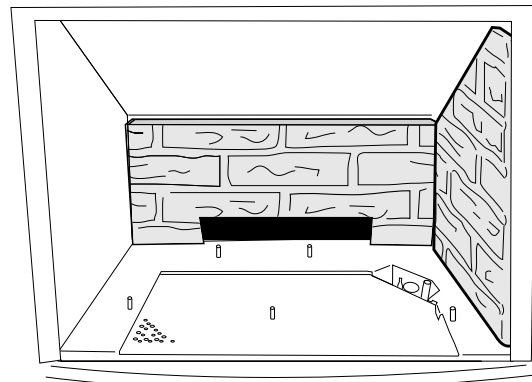

Figure 41. Install Side Panel
5. **Install a Side Panel.** Tilt the panel, bottom edge first, into position against the side wall. The panel will stand on its own against the wall, fitting snugly between the rear panel and the front wall of the firebox. Fig. 41.